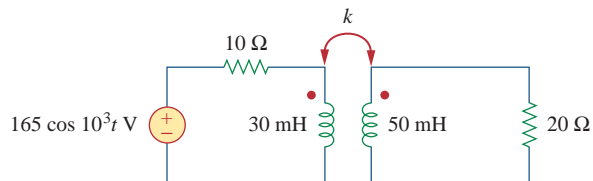

Figure 13.98
13.29 In the circuit of Fig. 13.98, find the value of the coupling coefficient k that will make the 10-Ω resistor dissipate 320 W. For this value of k , find the energy stored in the coupled coils at $t = 1.5$ s.